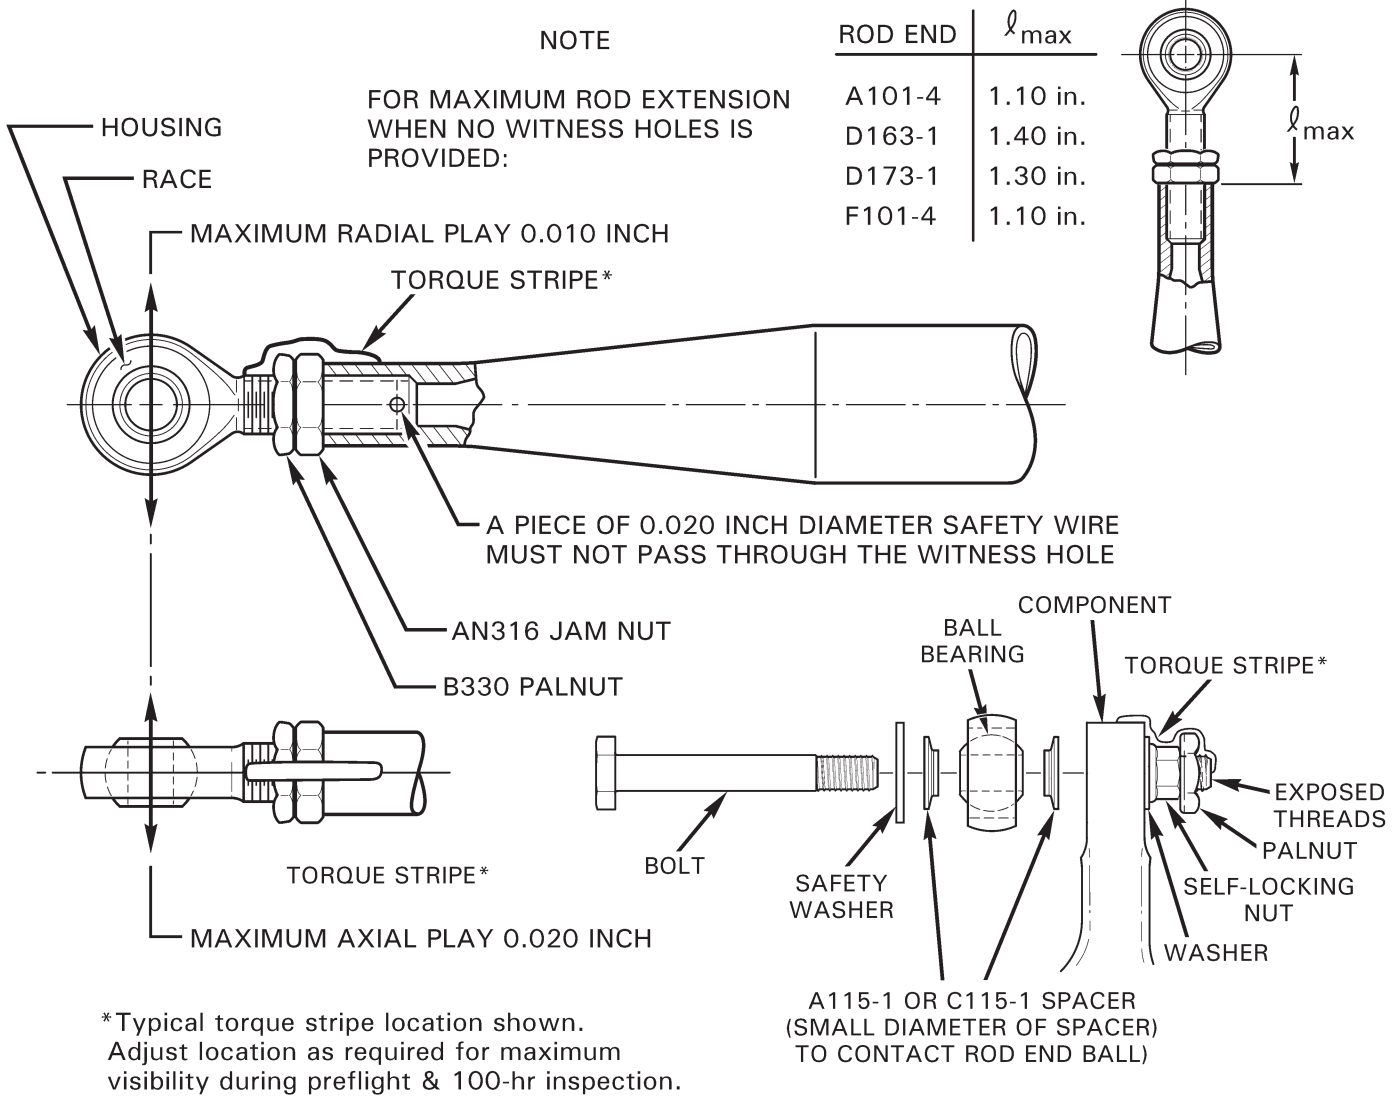

FIGURE 2-1 ROD END AND SPHERICAL BEARING PLAY LIMITS AND TORQUE STRIPE APPLICATION
Refer to Figure 2-1.
4. Rod end jam nuts and palnuts must be torqued per § 23-32 and torque striped, per Figure 2-1, at the most visible position for pre-flight inspection. Torque stripe must extend across nuts to both rod end shank and push-pull tube (or pitch link barrel, yoke, support, strut, etc.). Torque stripes are subject to deterioration and must be periodically renewed.
If, during inspection, the remaining torque stripe on a fastener is insufficient to determine joint integrity, then remove accompanying palnut as required and apply specified torque to fastener. If fastener moves, disassemble joint and inspect parts for damage such as fretting, thread deformation, hole elongation, etc.; replace damaged parts. If fastener does not move, install new palnut as required & standard torque per § 23-32. Torque stripe fastener per Figure 2-1.